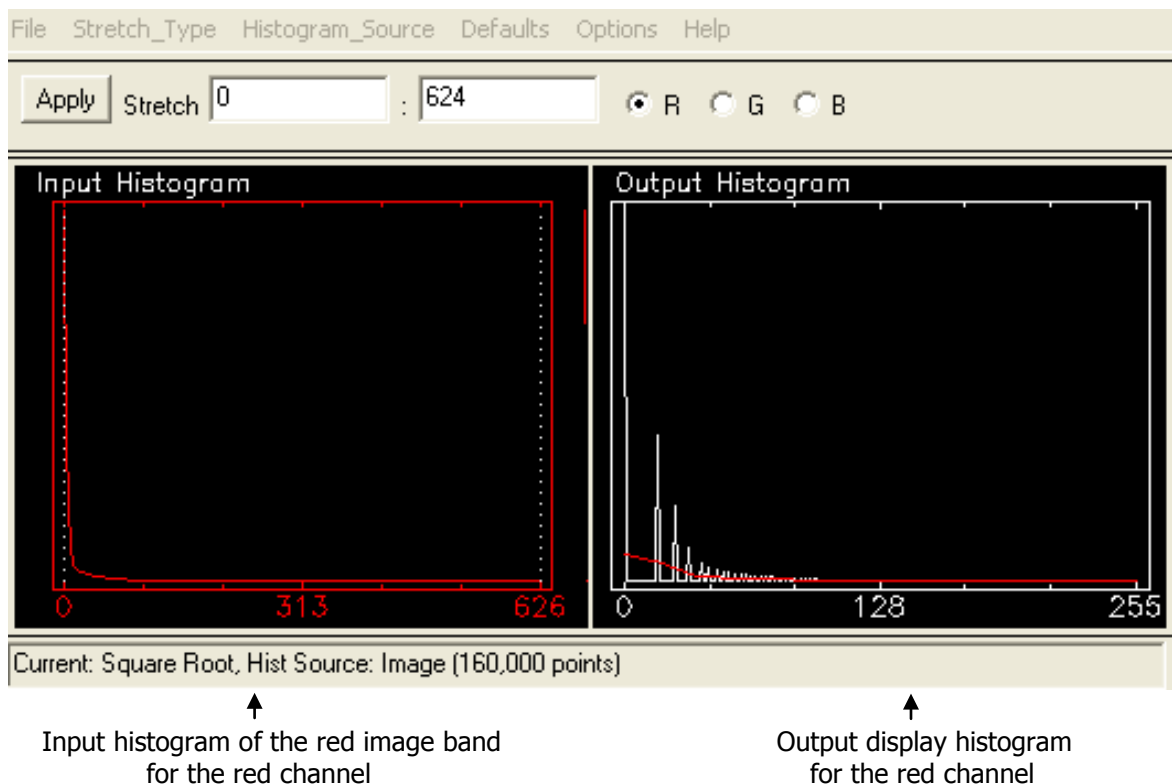

Figure 18. Input and Output Histogram
1. The display can be adjusted by changing the relationship between the input and output (see Figure 18) histograms. This option provides greater flexibility to adjust the image display